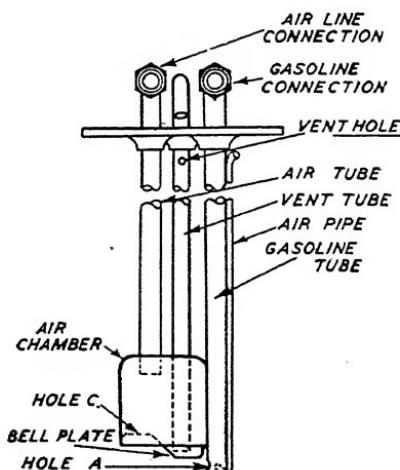

Fig. 22. Tank Unit
**Operation.** The tank unit is shown in Fig. 22. When the installation is operating properly, the air line, air tube, and air chamber above the level of the hole C are filled with air. The gasoline tries to rise to the same level in the tank unit as it is in the tank. It therefore exerts a pressure through the hole C on the air within the air chamber. This pressure is communicated through the air tube and air line to the head on the instrument board, where it is recorded by the rise of the red liquid in the glass tube.